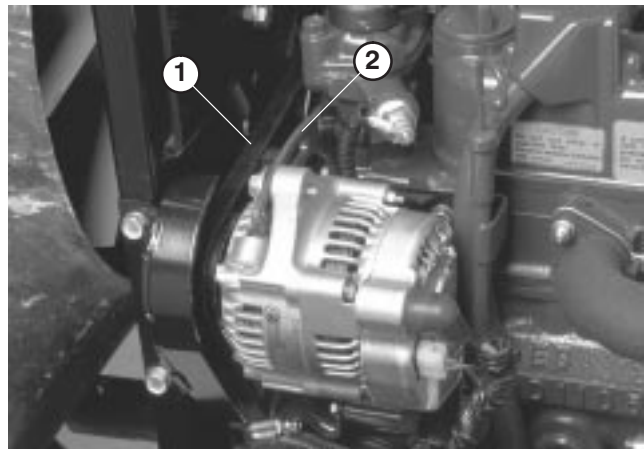

Figure 57
2. Check tension by depressing belt (Fig. 57) midway between alternator and crankshaft pulleys with 22 lb. of force. Belt should deflect 7/16 in. If deflection is incorrect, proceed to step 3. If correct, continue operation.
3. Loosen bolt securing brace to engine (Fig. 57) and bolt securing alternator to brace.